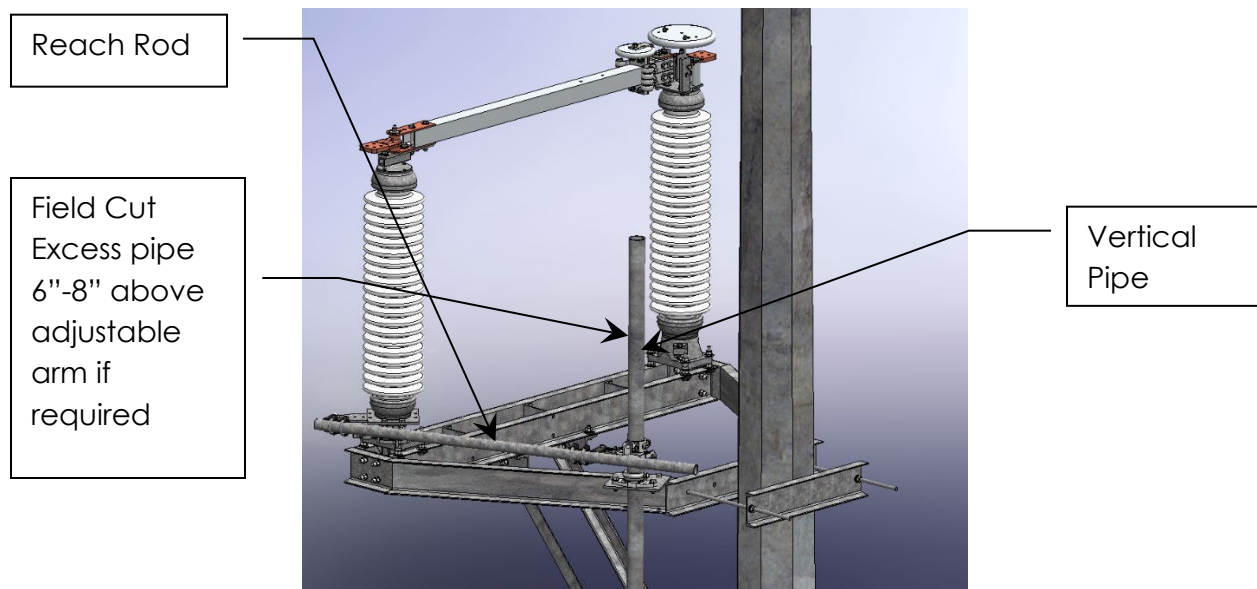
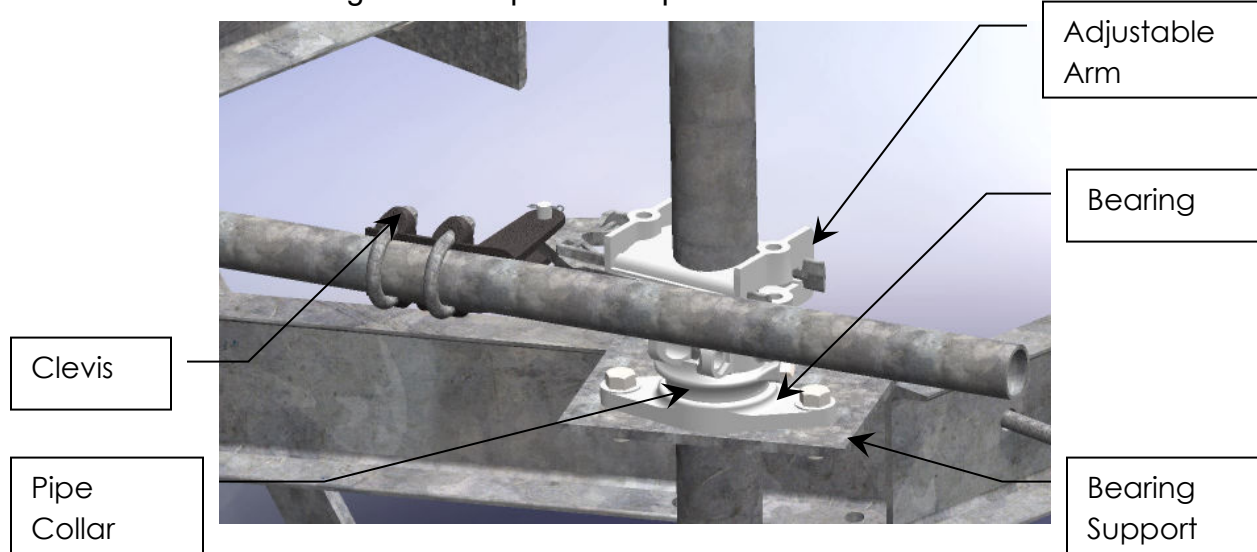

Figure 17: Top Phase Operation Mechanism
Figure 18: Vertical Bearing Support
6. Hang the first section of the vertical operating pipe from the top bearing by piercing the pipe with the bearing collar set screw. **CAUTION:** The pipe collar (above the vertical bearing support) must support the entire weight of the vertical operating pipe. **Do not allow the pipe to rest on the operator.** Refer to Figure 17 and Figure 18.